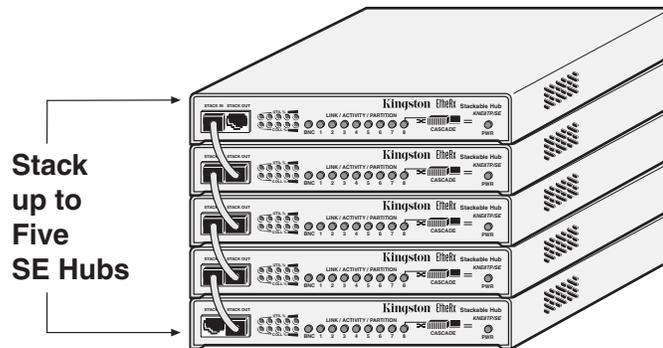

Fig. 3-4 Stackable SE Hub Configuration
5. Repeat the process to stack additional hubs up to a maximum of five (5) hubs.
Figure 3-4 below illustrates the stacking cable connections for five 8-Port KNE8TP/SE hubs expanding the total number of UTP port connections from 8 to 40 UTP ports and still be recognized as one Ethernet repeater on the network. A maximum of five (5) SE hubs can be stacked in any combination of 8 and 16-Port SE hub models.